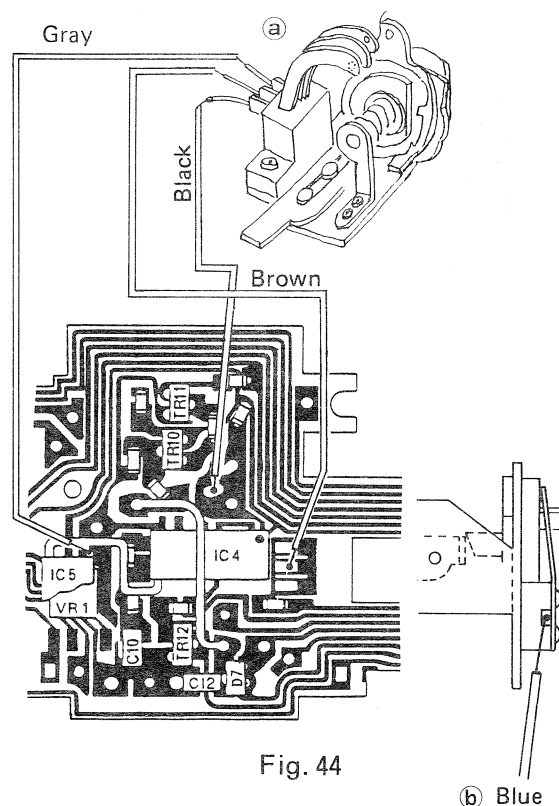

Fig. 44
- a: Disconnect 3 lead wires (black, brown and gray 1 ea.) from FPC plate (Fig. 44)
- b: Disconnect one blue lead wire from SR base plate (Fig. 44)
4. Then, remove ④ and take out SR base plate.